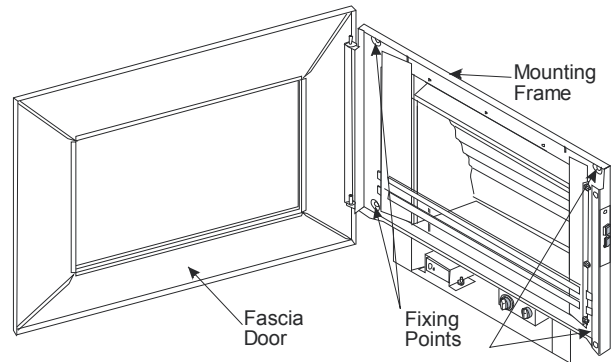

Figure 62
2. Separate the door from the mounting frame by opening and lifting the door off of the two-part hinges as indicated in **Figure 62**. Set the door carefully aside.